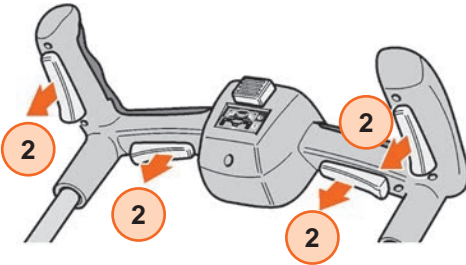

Figure 13
1. Release the On-/Off-switch ② (see Figure 13).